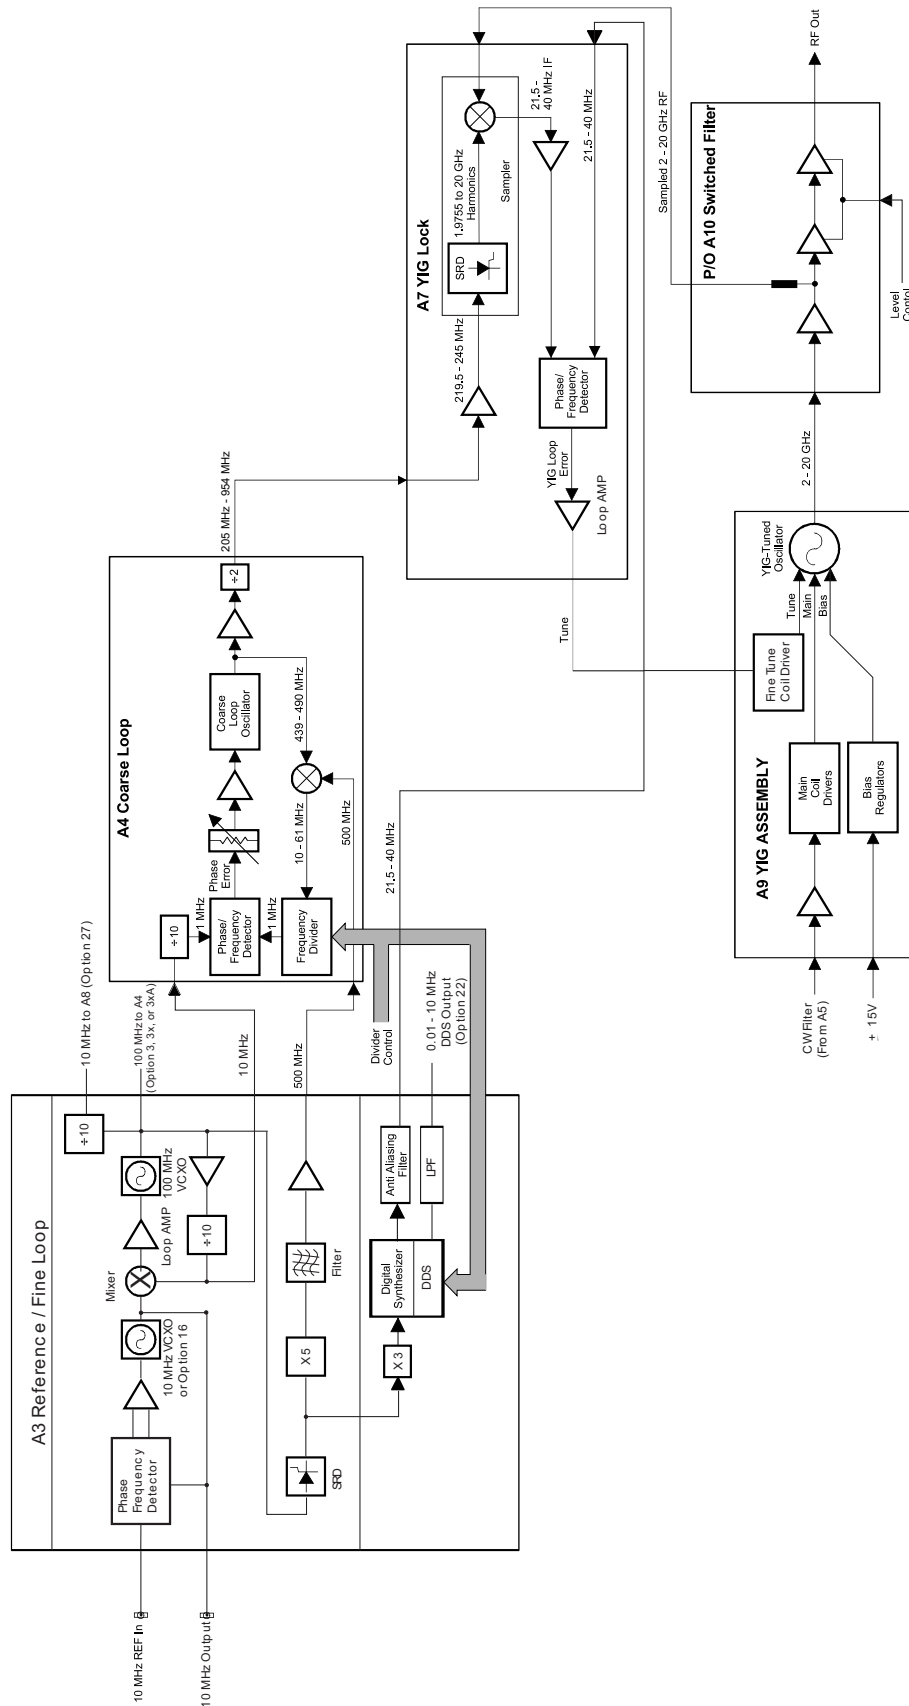

Figure 2-2. Block Diagram of the Frequency Synthesis Subsystem
Figure 2-2 on page 2-7 is an overall block diagram of the frequency synthesis subsystem. The following paragraphs describe phase-lock loops and the overall operation of the frequency synthesis subsystem.
Frequency modulation (FM) of the YIG-tuned oscillator RF output is achieved by summing an external or internal modulating signal into the FM control path of the YIG loop (refer to Figure 2-1 and Figure 2-2).